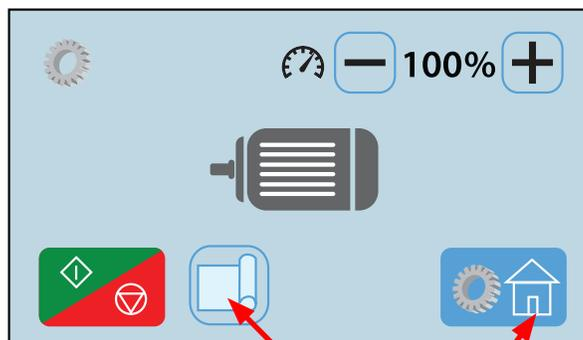

Fig. 54
- To test paper clutch load paper onto the in-feed tray and press the paper feed icon “” in the lower left corner to feed a sheet of paper (Fig. 54).